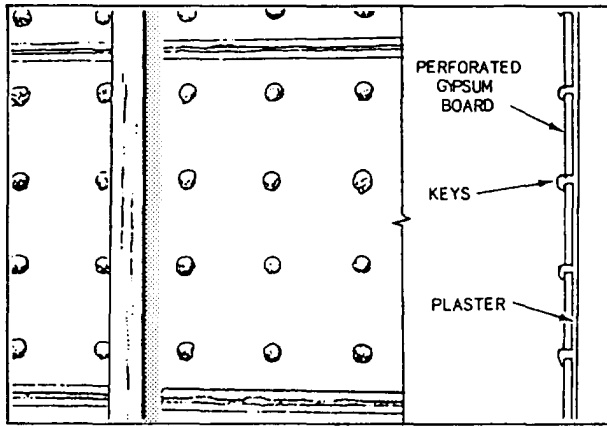

Figure 7-3.—Keys formed with perforated gypsum board.
Perforated gypsum lath plaster base is the same as plain gypsum lath except that 3/4-inch round holes are punched through the lath 4 inches on center (OC) in each direction. This gives one 3/4-inch hole for each 16 square inches of lath area. This provides mechanical keys in addition to the natural plaster bond and obtains higher fire ratings. Figure 7-3 shows back and side views of a completed application.